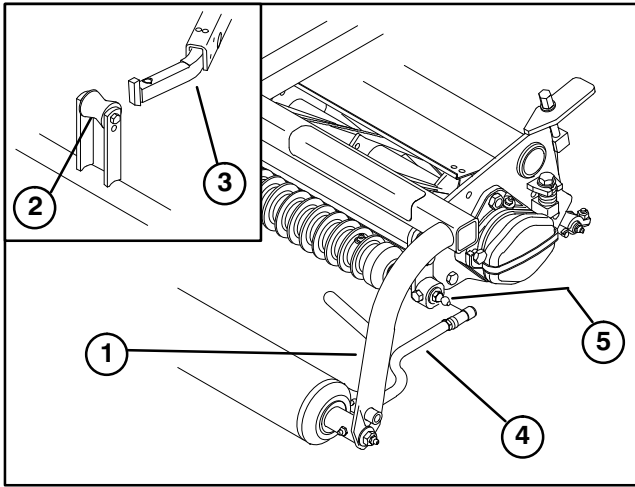

Figure 10
INSTALL CUTTING UNITS (Fig. 10 – 12)
2. Mount a washer and ball stud to each end of front roller on cutting units (Fig. 10).
3. Slide the cutting unit under the pull frame while hooking the lift roller onto lift arm (Fig. 10).